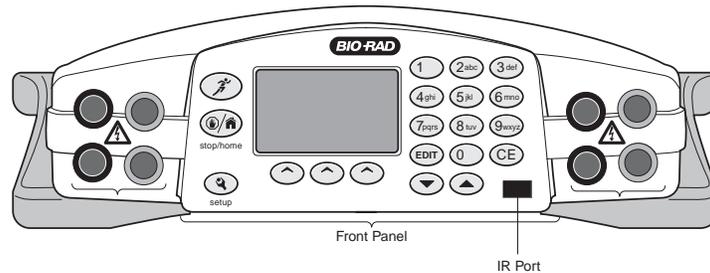
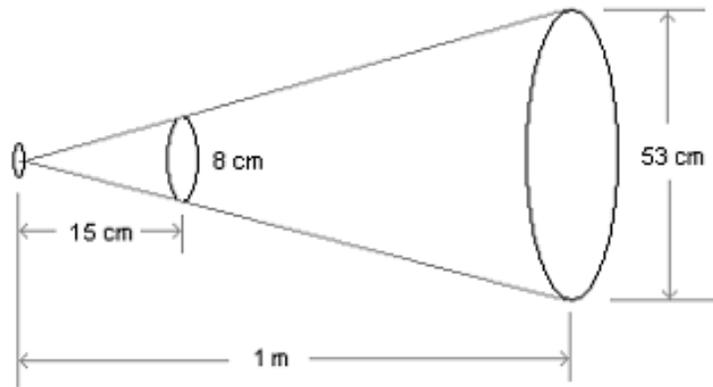

Fig. 1. Front view of the PowerPac Universal and PowerPac HV power supplies.
Fig. 2. Cone-shaped zone for infrared communication.
With the PowerPac data transfer software (DTS) and PowerPac remote software, the PowerPac Universal power supply and PowerPac HV power supply are capable of transmitting methods to and from a personal digital assistant (PDA), and transmitting run data to a personal computer (PC) or PDA through the infrared (IR) port located on the front of the power supply (Figure 1). The purpose of this instruction manual is to provide information regarding the installation of the software and guidelines for transferring run data and methods through the IR port.
When an IrDA device is transmitting, it emits light from an infrared light emitting diode (IrLED) through a lens. This lens shapes the light into a cone whose center extends perpendicular to the lens covering the IR port on the front panel of the PowerPac Universal and the PowerPac HV power supplies (Figure 1). The half-angle of this cone is 15°. The recommended distance from the IR port on the power supply to the communication device is a minimum of 15 cm to a maximum of 1 m. At 15 cm, the cone's diameter is 8 cm, and at 1 m, the cones diameter is about 53 cm. For reliable communications, the communicating device should be within this zone (Figure 2).